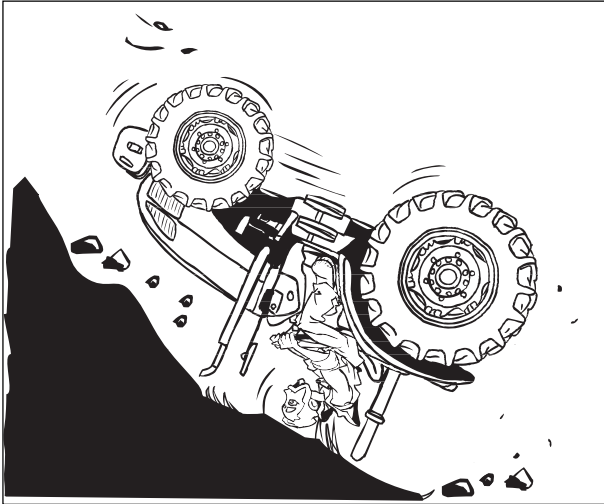
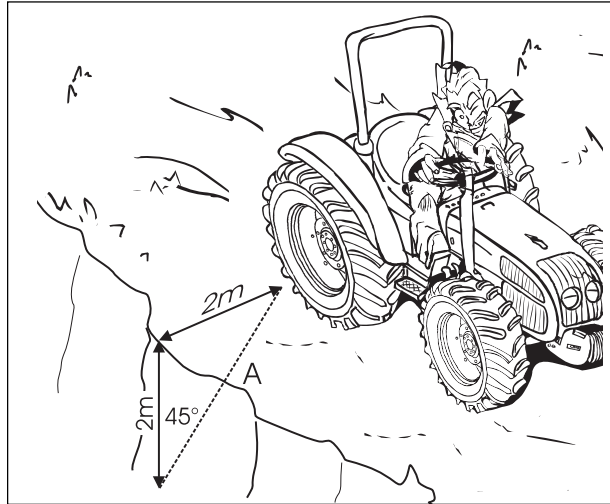

Fig.2-21
Fig.2-22
- When operating near ditches or banks, always keep your tractor behind the shear line (A, Fig.2-22). Avoid ditches, embankments and river banks which might cave in (Fig.2-21).